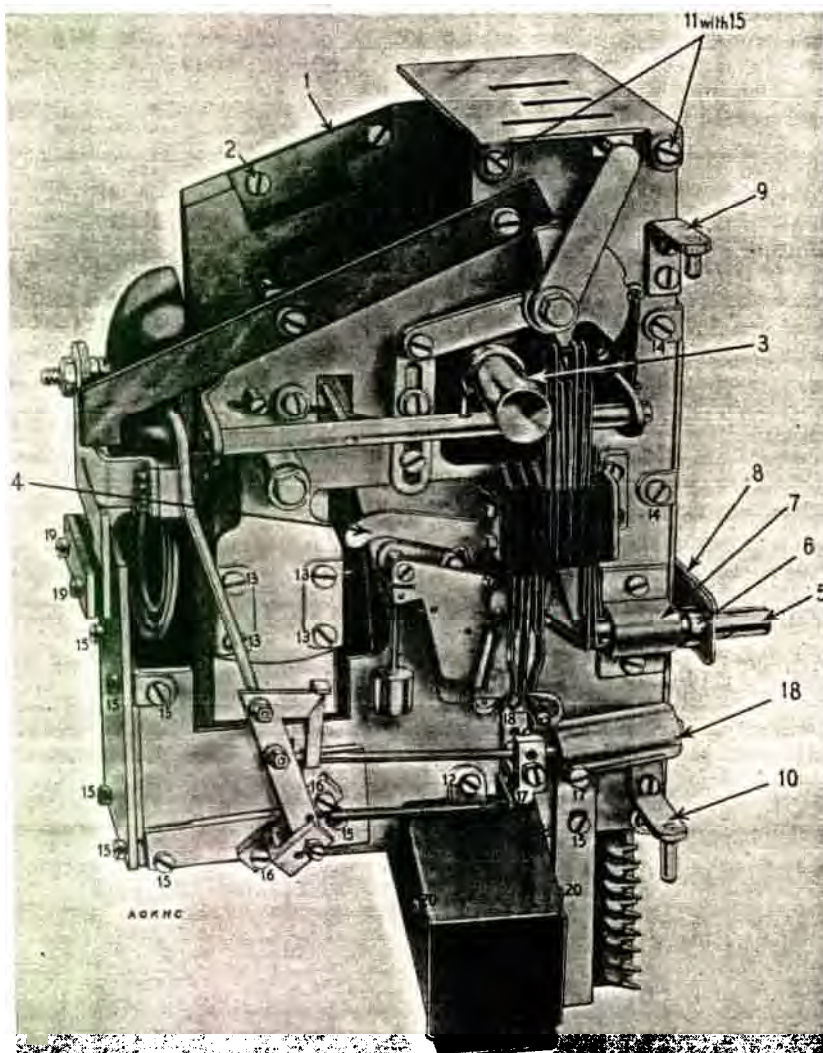

FIG. 1
**2. Identification of parts.**—Fig. 1 shows a typical mechanism of this type, the replaceable parts being indicated by item numbers. Table 1 lists these parts giving their description and code for requisition purposes.